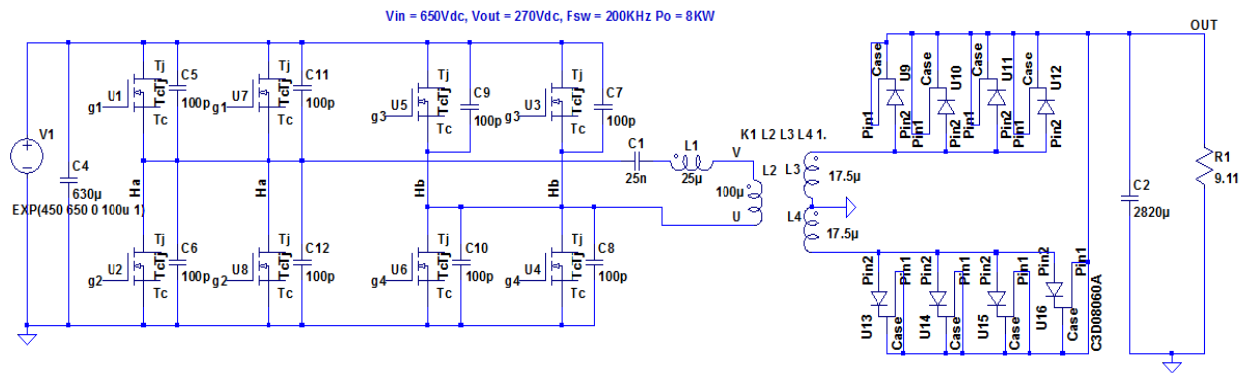

Figure 1 8KW ZVS LLC Resonant converter model circuit
3. The model will be similar to the one shown in figure 1.